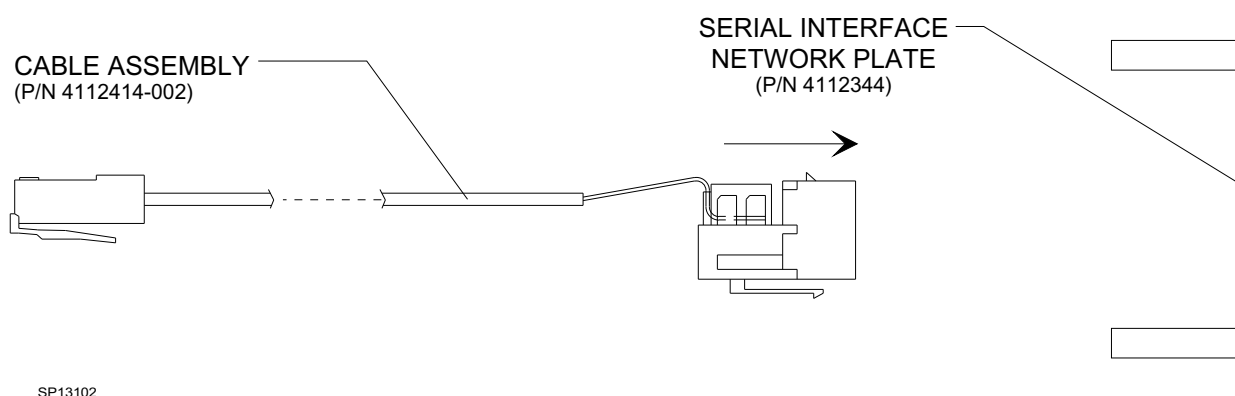

Figure 2: SERIAL INTERFACE NETWORK PLATE AND CABLE ASSEMBLY
10. Assemble the network cable (P/N 4112414-002) to the serial interface network plate (P/N 4112344) in the direction shown in Figure 2. Press the network connector into the hole in the plate until it locks into position.